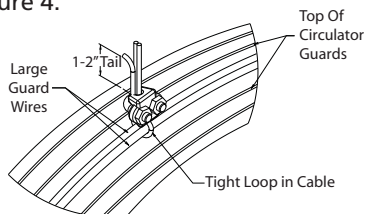

Figure 4 — Cable Clamp Detail
1. Loop one end of the cable around the large diameter wires of both the front and rear guard as shown in Figure 4.